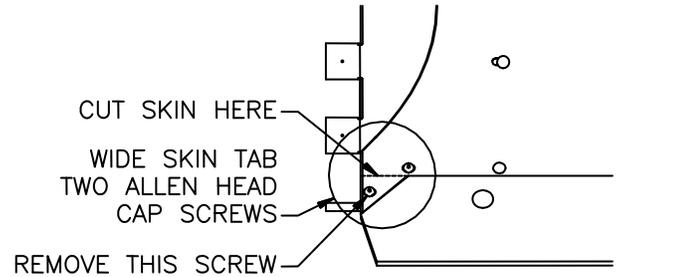

Figure 3. First style Poly Power-V G10466
4. First style Poly Power-V blade skins have a large tab that is located at the center of the plow. Two Allen Socket Head Cap Screws are located on this tab. The lower Allen Socket Head Cap Screw must be removed for Formed Cutting Edge installation. See Figure 3. Grind as described in Step 2.